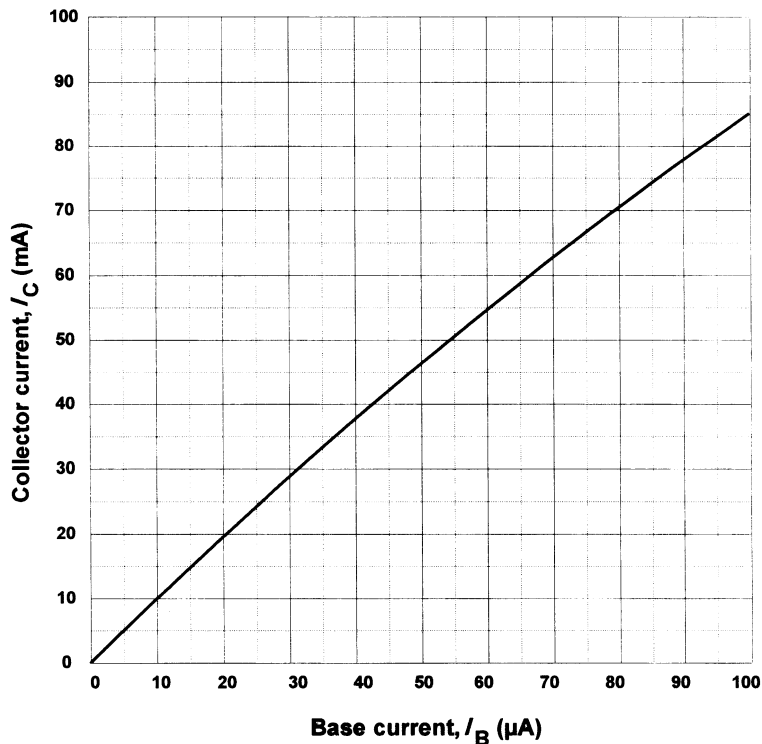

Figure 5.36
- 5.12 The transfer characteristic for an NPN transistor is shown in Fig. 5.36. Use this characteristic to determine: